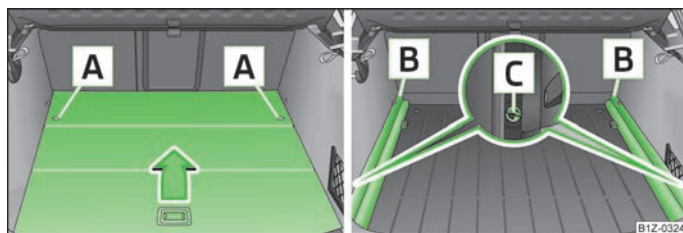

Fig. 58 Luggage compartment: Remove variable loading floor/remove carrier rails
- Unlock the variable loading floor by turning the safety eyes **A** » Fig. 58 to the left by around 90°.